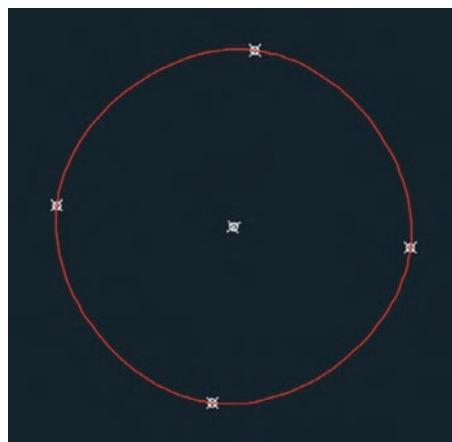

FIGURE 5.16 Snapping spline fit points to point objects
2. Expand the Draw panel and click the Spline Fit tool at the top left. Toggle on Object Snap mode in the status bar (with Node snap on) and click the top point, the point on the right, the bottom, and then the one on the left. Type **C** (for Close) and press Enter. The fit curve looks very much like a circle, although it is not perfectly round (see Figure 5.16). This will be the start of an abstract tree representation.